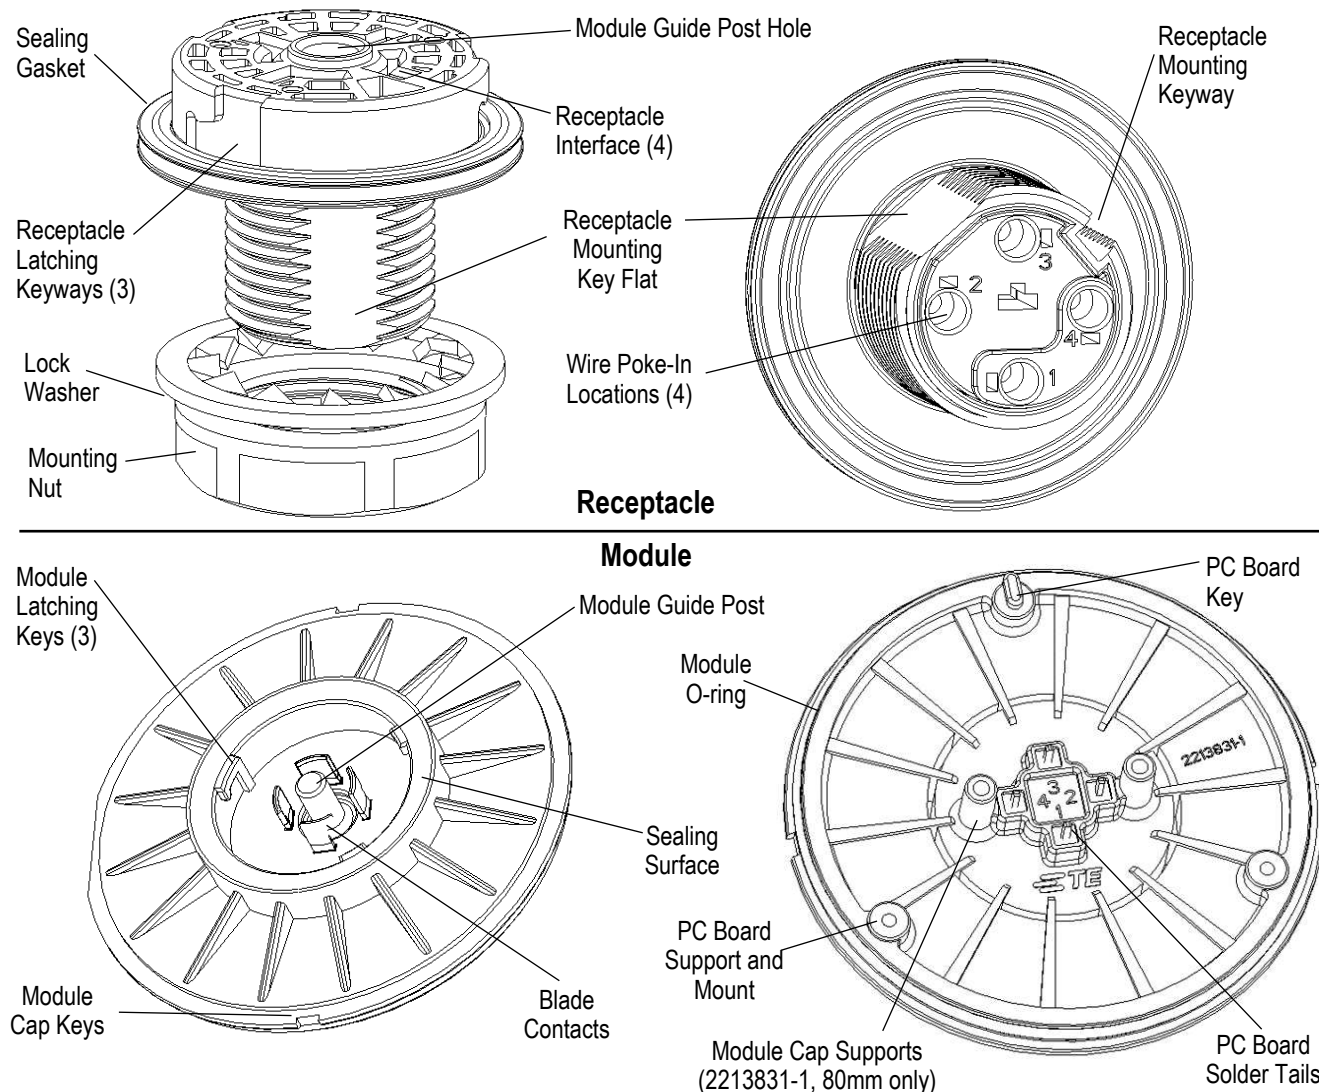

Figure 1a
When corresponding with TE Connectivity (TE) Personnel, use the terminology provided in this specification to facilitate inquiries for information. Basic terms and features of this product are provided in Figure 1a, 1b, and 1c.